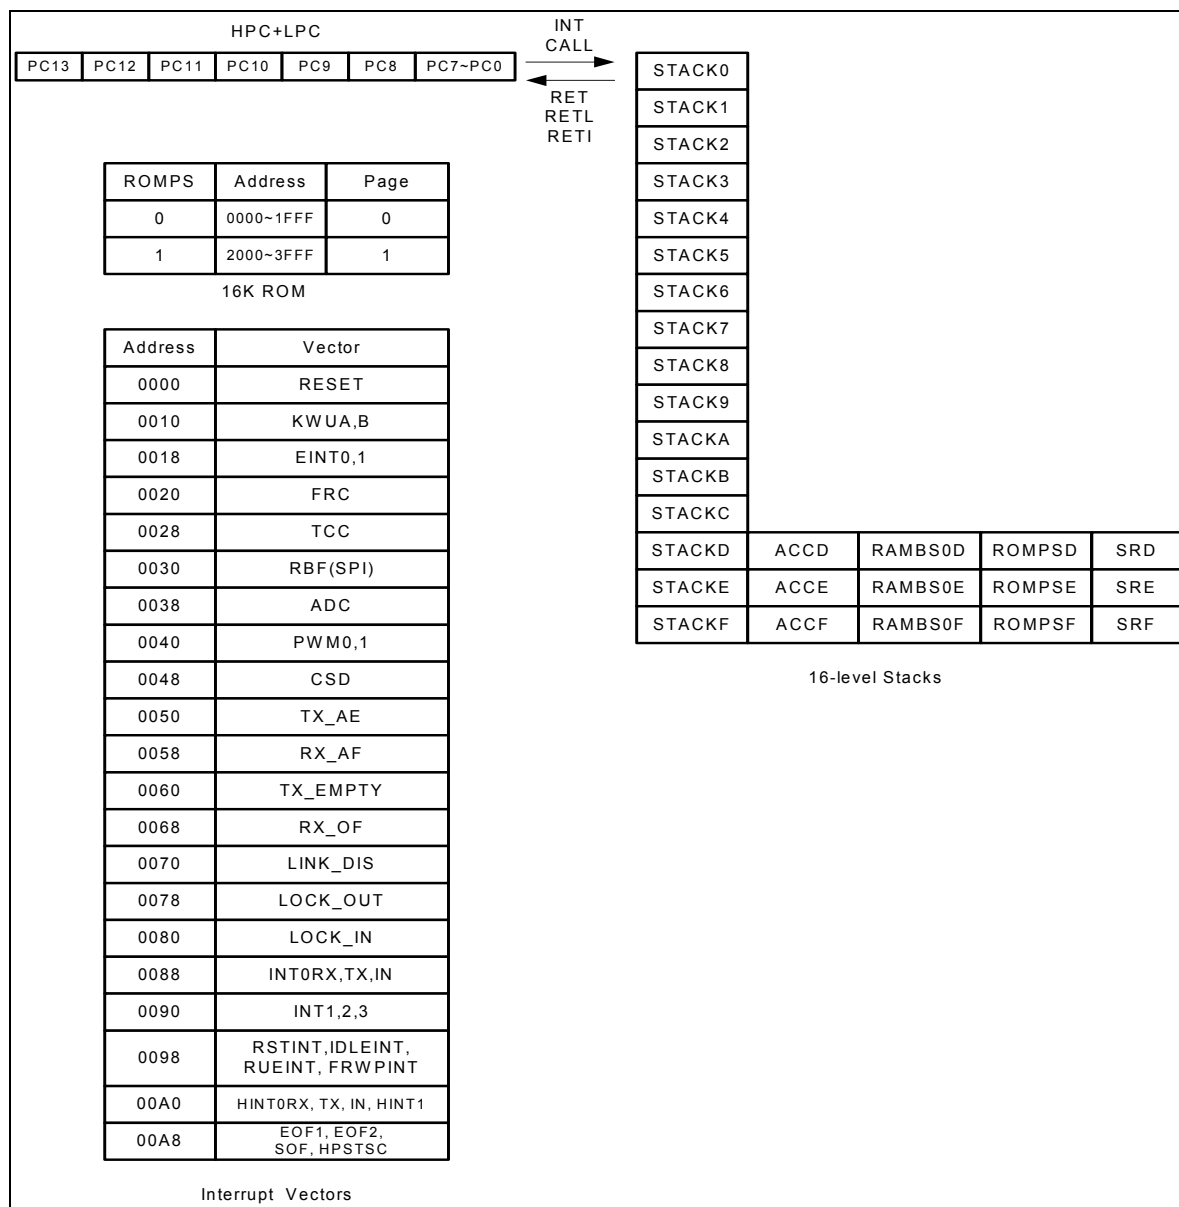

Fig. 6-1 Configuration of Program Memory (ROM) for EM77F900
The EM77F900 has a 14-bit program counter (PC). The program memory space, which is partitioned into two pages can address up to 16K. Each page has 8K in length. Fig. 6-1 depicts the profile of the program memory and stack. The initial address is 0x0000. The table of the interrupt-vectors starts from 0x10 to 0xA8 with every other eight-address space.